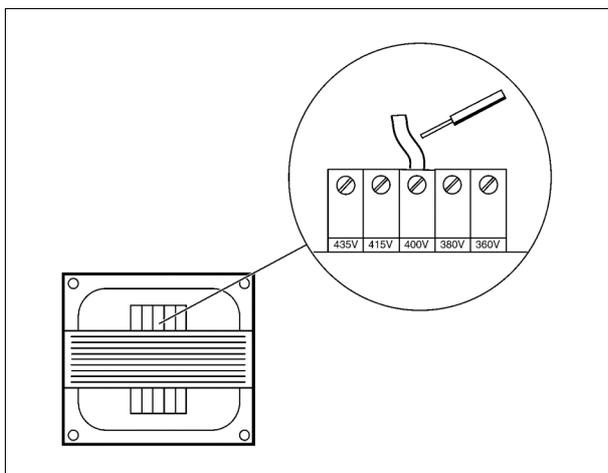

Fig. 25
- Change the control transformer setting accordingly. Fig. 25 illustrates an example.